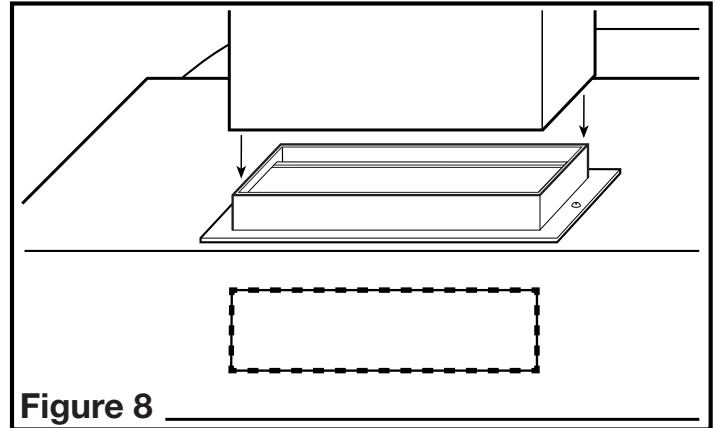

Figure 8
1. Connect the ducting to the hood's duct collar and damper. Secure in place using tape to seal all joints (Figure 8).